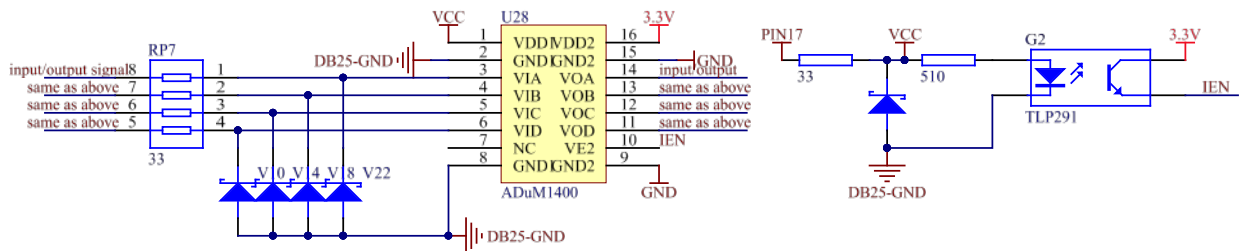

Figure 6. Schematic of input and output signals.
(5) PIN 18 is the start signal of the MO. PIN19 is the input for the optical output signal. The electrical level for both PIN18 and PIN19 are 5V. Before turning on PIN 19, MO signal must be switched ON, in other word, the signal of PIN 18 must be ahead of PIN 19 at least 5 ms, and otherwise the laser machine may be damaged.
(6) I/O connection of digital signal: the supply current of input signals are less than 10mA, and the supply current of output signals are less than 3 mA . The connection circuit of input/output signals is shown in Figure 6.